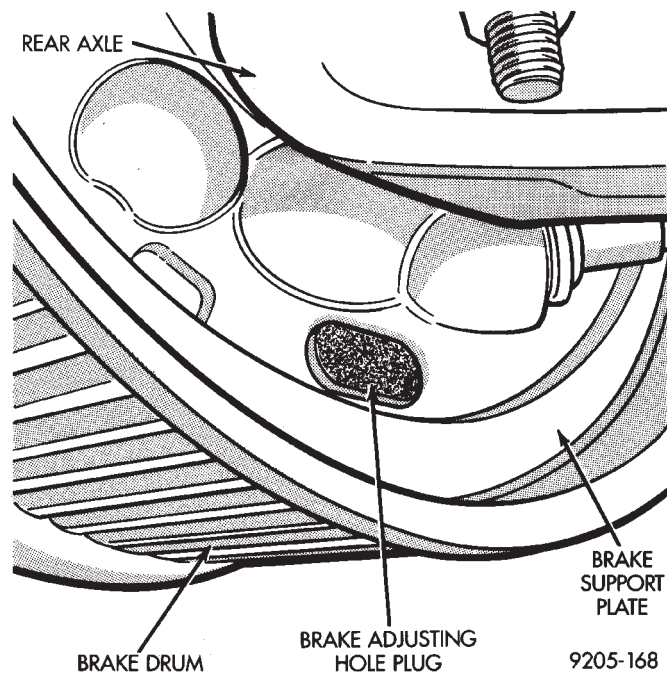

Fig. 1 Brake Adjusting Hole Plug
(1) Raise the vehicle so all wheels are free to turn. See Hoisting Recommendations in the Lubrication And Maintenance Section, at the front of this service manual.
(2) Remove rear brake adjusting hole rubber plug (Fig. 1), from the rear brake shoe support plate.
(6) Repeat above adjustment at the other rear wheel. Install adjusting hole rubber plugs (Fig. 1) in rear brake supports.
(7) Adjust parking brake after wheel brake adjustment.